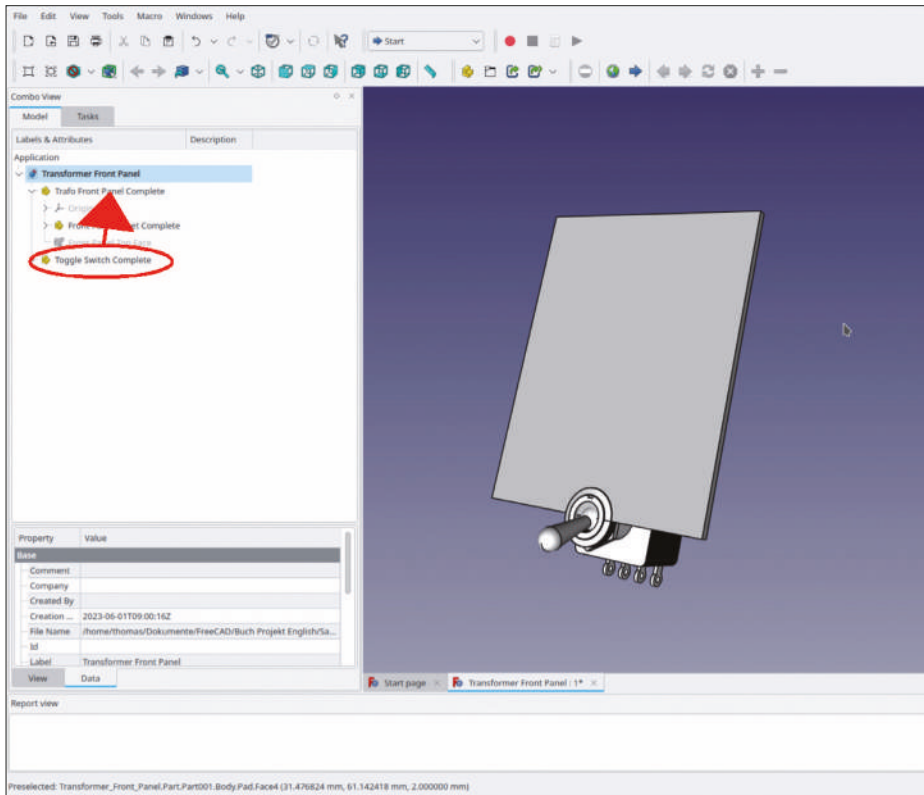

Figure 9-13
2. In the tree view, close the document node 'Toggle Switch'. If the title is not shown in bold letters (which may be the case with more documents open), double-click the node 'Transformer Front Panel'. Then, paste the switch with CTRL-V. Drag and drop the Std-Part-Container with the switch into 'Trafo Front Panel Complete' (Figure 9-13).